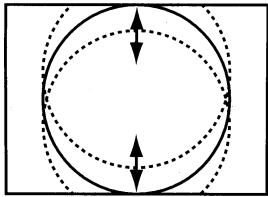

Fig. 3
- Adjust the vertical size to obtain overscan (fig. 3).